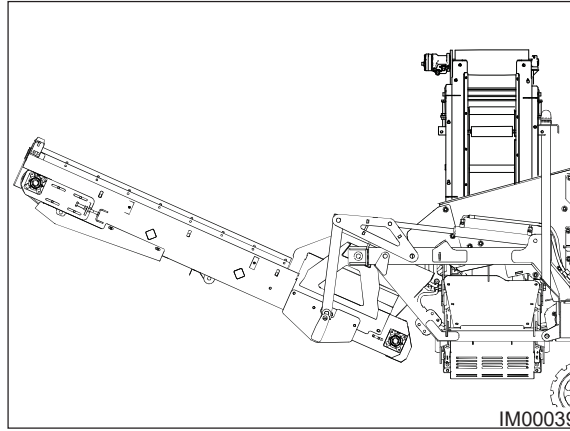

Fig: 7.6 - Oversize Conveyor Working Position
5. Once the conveyor has reached the Working Position (Fig: 7.6), release the control lever.